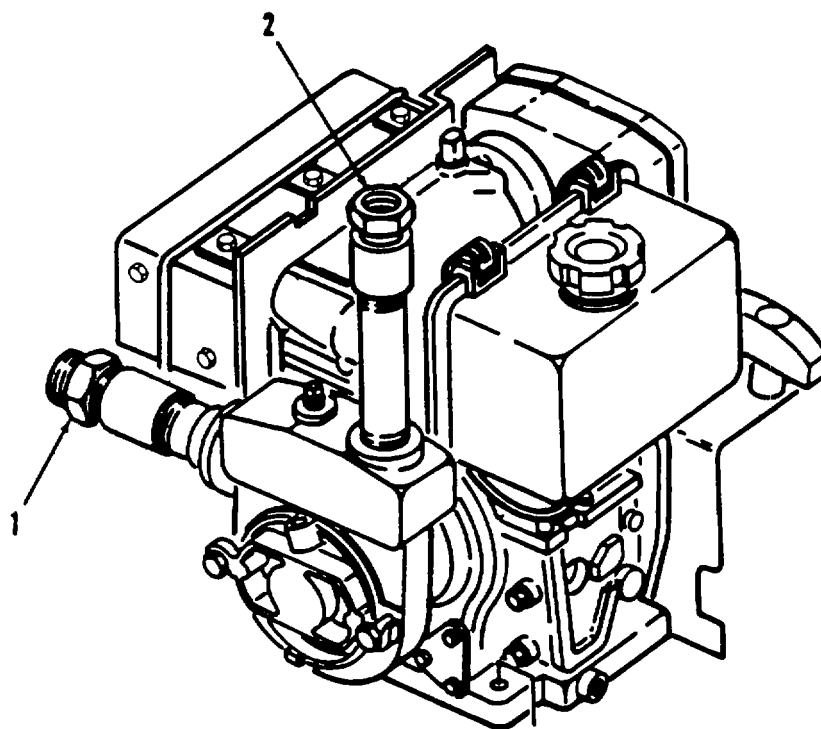

Figure 2-3. Priming Pump.
a. Priming the Pump. Although the centrifugal pump used in the DED pump assembly is a self-priming pump, it is self-priming only after an initial prime is provided during its first start up. To initially prime the pump, perform the following steps. (Refer to Figure 2-3.)
- (1) Be sure that no hoses have been attached to either the inlet pipe (1) or the outlet pipe (2) of the DED pump assembly.
- (2) Fill the pump by pouring about one gallon of water through the outlet pipe (2) of the pump.